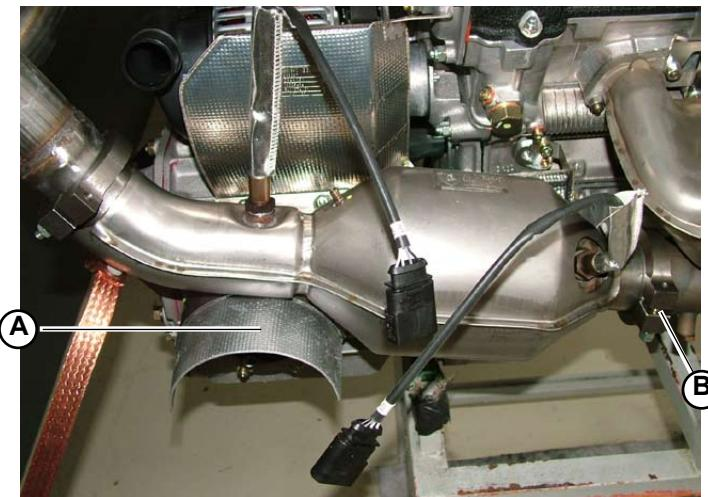

Fig.1
1. Disassemble the heat-proof panel (A-Fig.1) under the right catalytic converter.
2. Free the catalytic converter from the rest of the engine unit by removing the clamps (B-Fig.1/2).